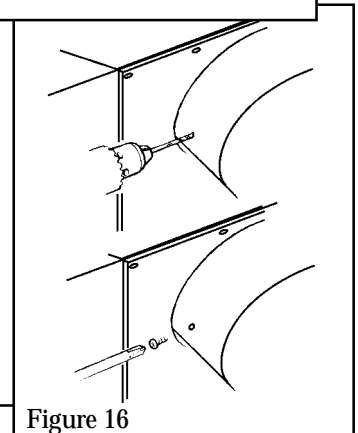

Figure 16
2. Drill through the adapter outer tube and appliance outer collar for no.6 screws. See figure 16. *Make sure that the drill does not penetrate the inner tubes.*
3. Secure the adapter to the outer collar with two no.6 thread cutting screws supplied (Fig. 16).